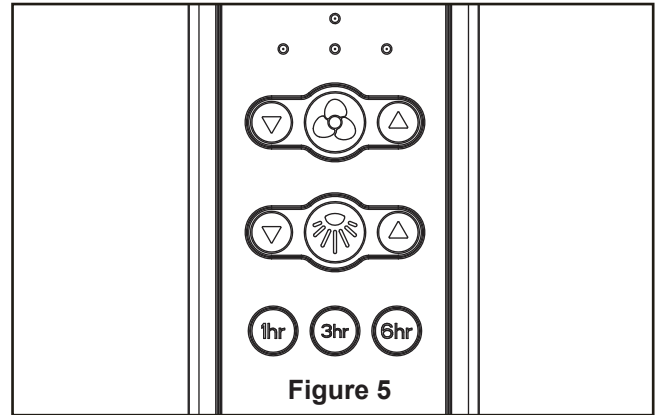

Figure 5
3. Remove the two screws from the motor assembly, retain the screws for later and loosen the remaining screws. (Figure 5)
5. Assemble the upper LED plate assembly to the light kit assembly using the two key slots in the upper LED plate assembly. Replace the third screw and securely tighten all three screws. (Figure 5)
5. Remote functions: (Figure 5)